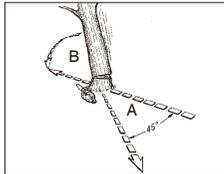

Fig. 11A
⚠ WARNING: A retreat path (A) should be planned and cleared as necessary before cuts are started. The retreat path should extend back and diagonally to the rear of the expected line of fall, as illustrated in Fig. 11A.
⚠ WARNING: As the felling cut gets close to the hinge, the tree should begin to fall. When tree begins to fall, remove saw from cut, stop engine, put chain saw down, and leave area along retreat path (Fig.11A).